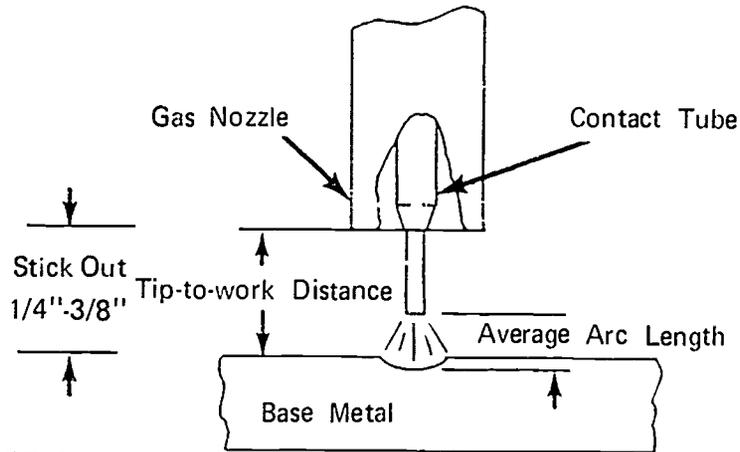

FIGURE 2
- D. Maintain correct stick out of $1/4''-3/8''$ (Figure 2)